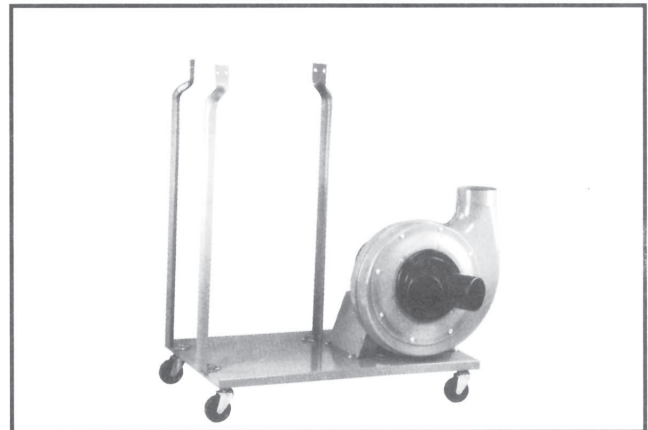

Fig. 4
4. Attach three support brackets (A, Fig. 4) to base using six hex cap bolts (M8x16) and six flat washers (5"x16"). Hand tighten only at this time.